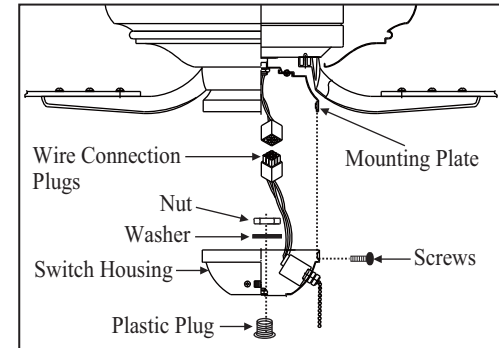

Figure 15
2. Attach the plastic plug to the switch housing. (Fig. 15)
4. Install the switch housing to the mounting plate with screws provided. (Fig. 15)